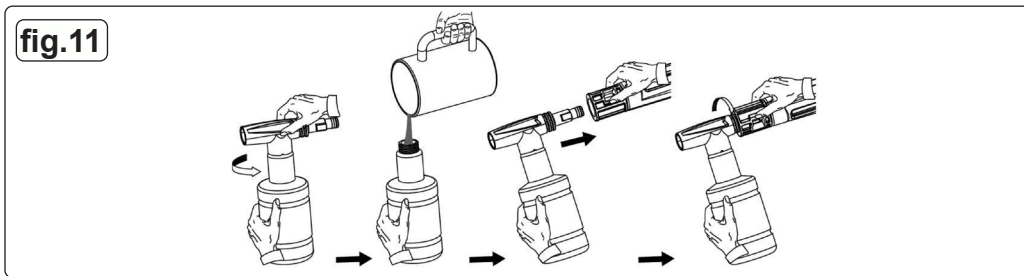

fig.11
6.6. TO WASH WITH DETERGENT (FIG.11)